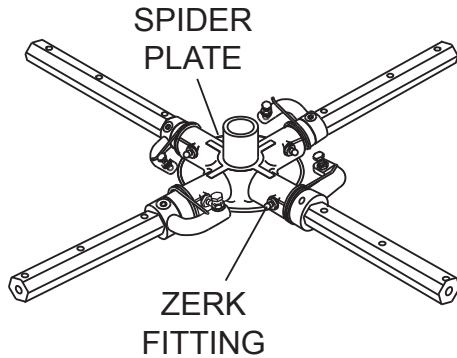

Figure 35. Zerk Grease Fitting Removal
1. Each trowel arm is held in place at the spider plate by a hex head bolt (with Zerk grease fitting). Remove the hex head bolt/Zerk grease fitting from the spider plate. (Figure 35).